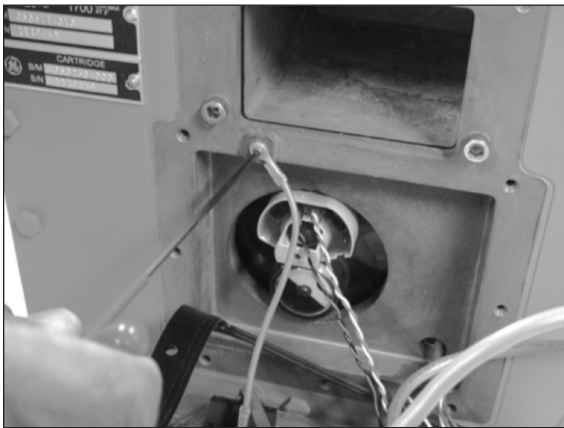

Figure 9.12 - Remove green ground wire
- Use a 3/32" Allen wrench to remove the (#4-40) screw connecting the green ground wire as shown in Figure 9.12.